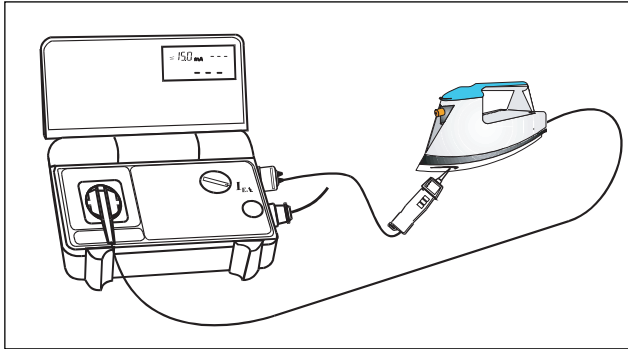

Fig.7.47
- If applicable, connect UUT mains plug to test/mains socket of UNITEST MACHINEmaster. Connect test probe(s) of COMMANDER used to UUT (see Fig.7.47)